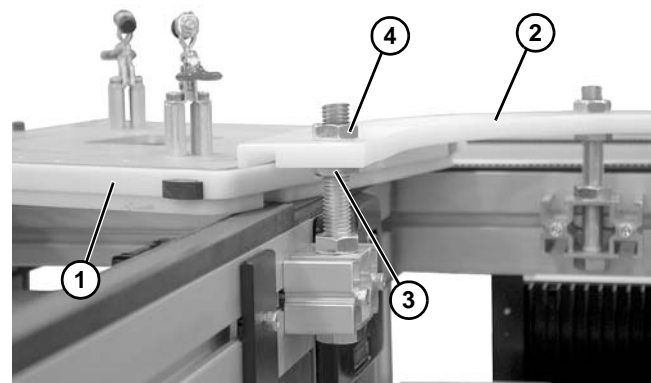

**Figure 76**
7. Install corner guide (**Figure 76, item 1**) onto studs. Position support assemblies so that the hex nuts (**Figure 76, item 2**) are in the circular openings in the bottom of the guide.
8. Thread jam nuts (**Figure 76, item 3**) onto studs, but do not tighten.
9. Finger tighten screws (**Figure 76, item 4**) on support assemblies.
2. If the pallet binds, adjust hex nuts (**Figure 77, item 3**) up or down to raise or lower corner guide. If needed, loosen the screws (**Figure 76, item 4**) on the support assemblies, and move them left or right.
3. Tighten screws (**Figure 76, item 4**) on support assemblies and upper jam nuts (**Figure 77, item 4**).